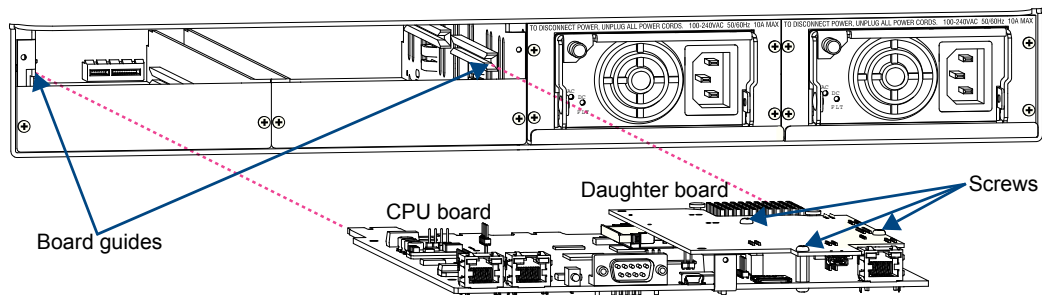

FIG. 139 Remove 3 screws indicated
6. Remove the three screws indicated on top of the CPU / daughter board assembly (FIG. 139) and remove the daughter board.
12. Slowly slide the CPU board into the empty slot, being careful to align the edges in the board guides along the insides (the board guides are shown in FIG. 139).